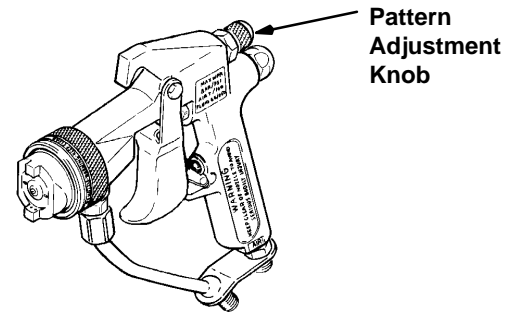

Fig. 4
4. Close the pattern adjustment valve by turning the knob (see Fig. 4) counterclockwise all the way. This sets the gun for its widest pattern.